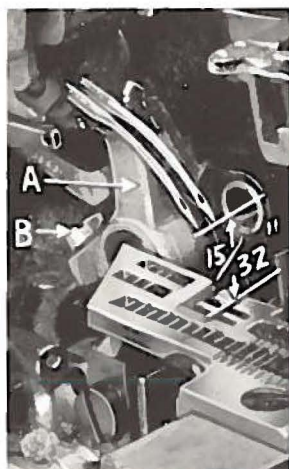

Fig. 3
With the throat plate in position, needles should center in the front end of needle slots. When needles are at high position, needle points should be set $\frac{15}{32}$ inch above throat plate (Fig. 3). Move needle driving arm (A, Fig. 3), by loosening clamp screw (B). Remove the throat plate.